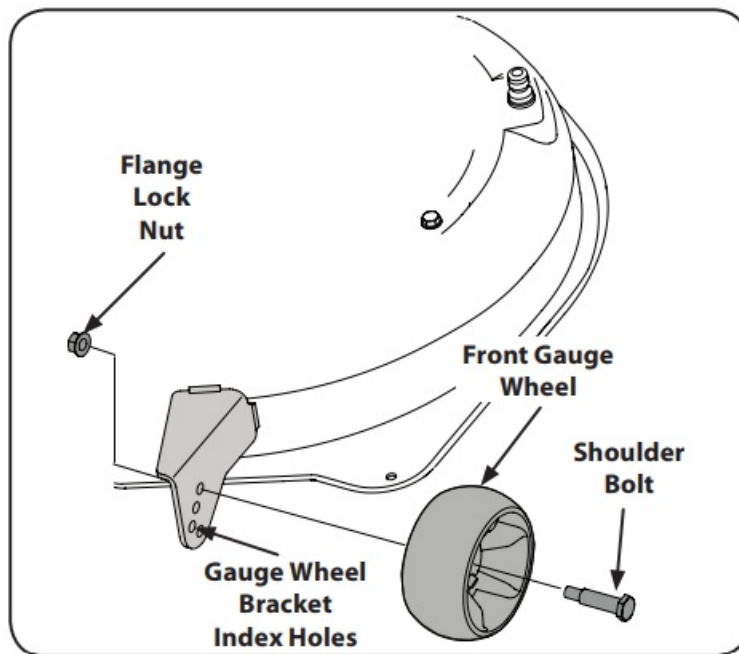

Figure 6-7
3. Remove the flange lock nut and shoulder bolt securing one of the front ball wheels to the front index bracket. Reposition the ball wheel to align with the one of five index holes that places the wheel 4" to 4½" above the ground. Secure the ball wheel to the index bracket with the shoulder bolt and flange lock nut. Note the index hole used and secure the other ball wheel in the same position. See Fig. 6-7.